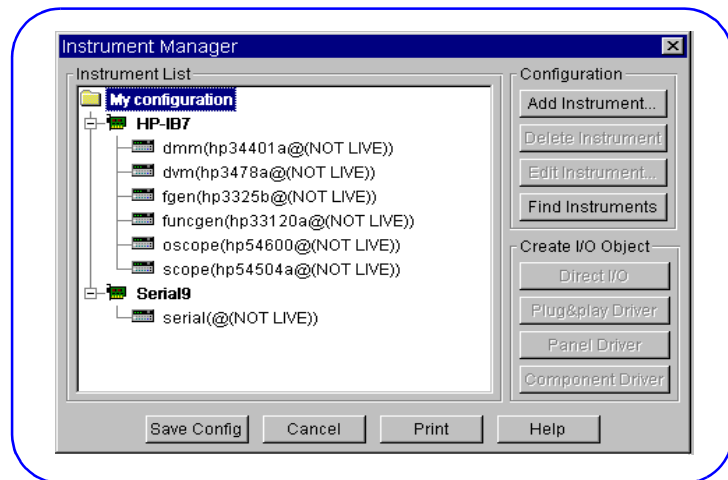

Figure 30. HP VEE Instrument Manager - Default Screen
- 1 To run this example, turn PC and mainframe power ON and open HP VEE. Then, select the *I/O|Instrument Manager...* menu item to display the default Instrument Manager screen (see Figure 30).